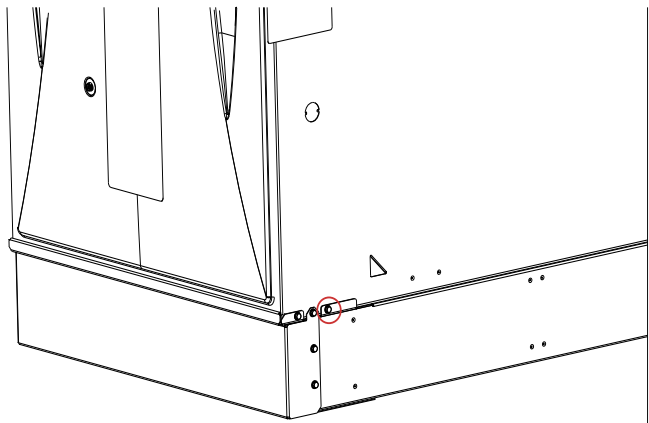
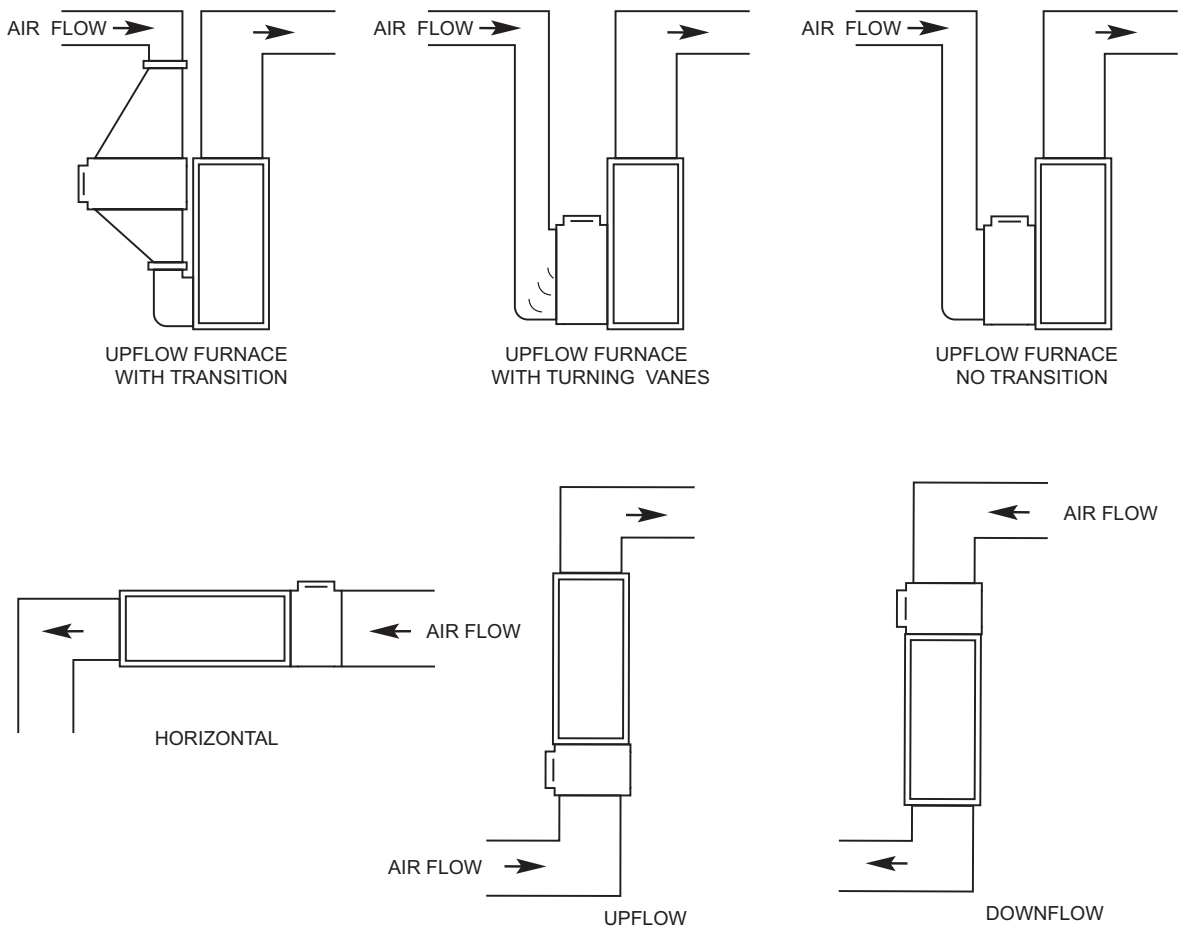

Fig. 2 – Screw Removal for Furnace Side Mount
Fig. 4 – Typical Mounting Positions
The best location for the air filtration system is in the return air duct next to the blower compartment. In this location, the blower motor and cooling coils will be kept clean. Do not install the air cleaner in the discharge (supply) air duct. Before installing this air filtration system, consider the application. If a transition is required, refer to Fig. 4 or Fig. 5. The unit must be readily accessible for periodic inspection and replacement of EZ-Flex™ filter to maintain maximum efficiency and trouble-free operation. Prior to installing the EZ Flex Filter Cabinet, in cases where the unit is mounted on the sides of the furnace, the following screw needs removed (See Fig. 2 below). When installing the unit, it is recommended to use no larger than a #10 screw with a MAX head diameter of 3/8".
4. Locate the cabinet in the cold air return duct so that all of the return air flows through the unit. If the furnace and air cleaner openings are different, use a transition. See Fig. 4.